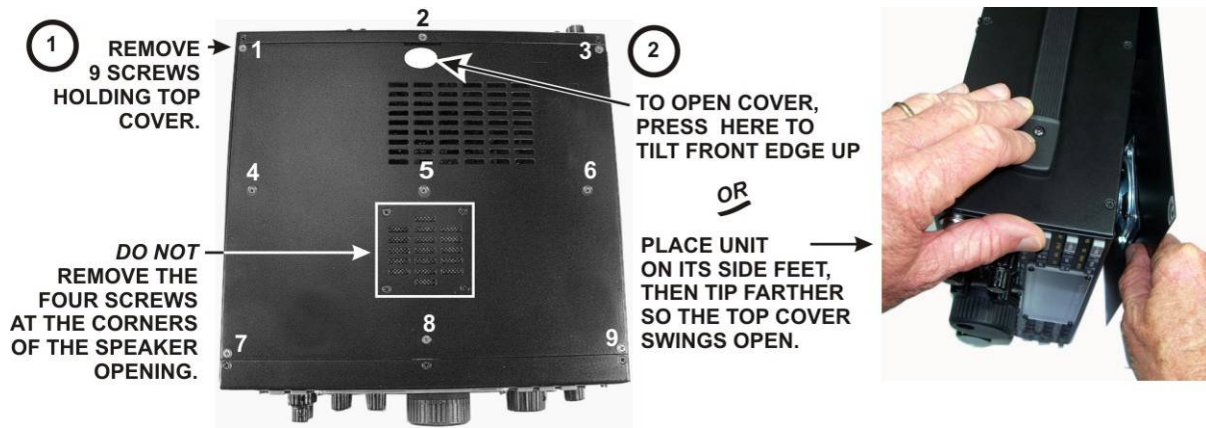

Figure 3. Removing K3 Top Cover.
- Remove the nine screws to free the top cover as shown in Figure 3. After the cover is open, lift it gently to reach the speaker wire connector. Unplug the speaker then set the top cover aside in a safe place.
Position the top cover on the K3. Note that the tab on the back center goes under the rear lip of the K3 rear panel. Secure the top cover with the nine 4-40 3/16" (4.8 mm) black flat head screws you removed earlier (see Figure 3 on page 8 for the screw locations).